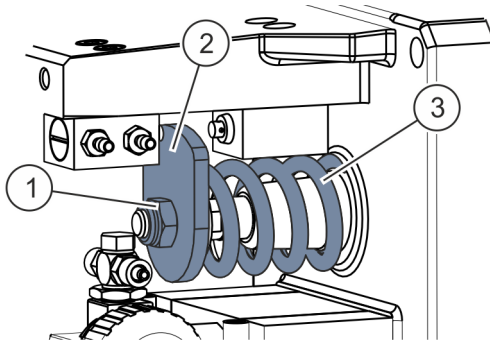

Fig. 10: Pressure disc and spring
- 8.** ➔ Loosen nut (Fig. 10/1) and remove pressure disc (Fig. 10/2) and pressure spring (Fig. 10/3).